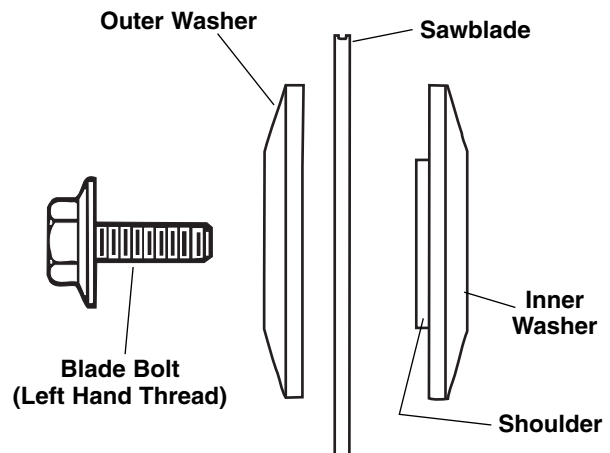

Figure 2. Blade Hardware
5. Remove the blade bolt, outer washer and the blade. Do not remove inner washer (Figure 2).
6. To install the 12" blade, fit blade between the chip deflectors and onto the arbor shaft, and onto 1" shoulder on the inner washer (Figure 2).